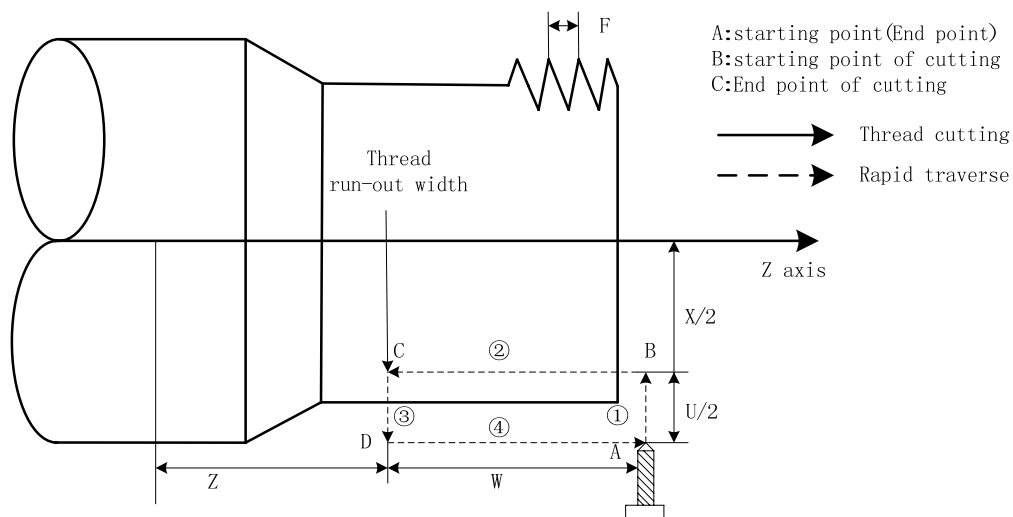
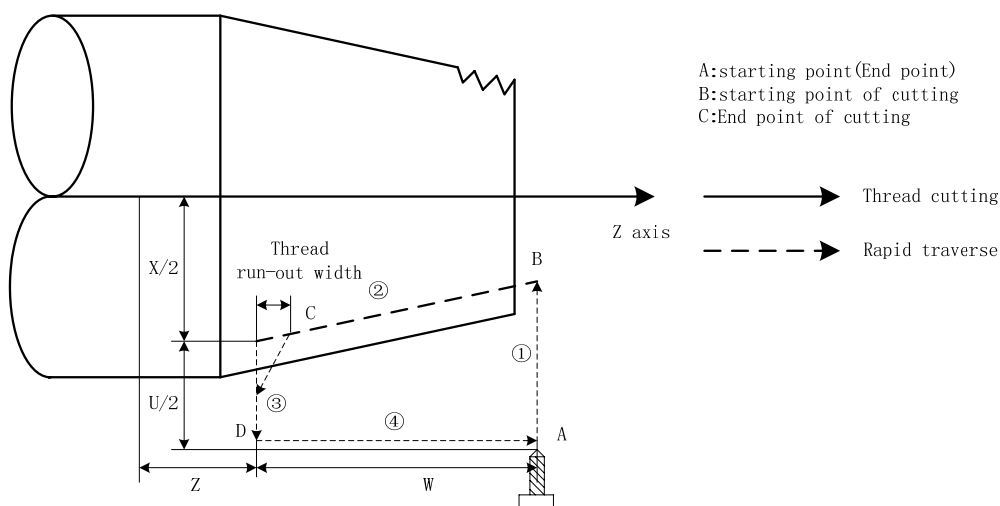

Fig. 3-88
Fig. 3-89
**Command function:** Tool infeeds in radial(X) direction and cuts in axial(Z or X, Z) direction from starting point of cutting to realize straight thread, taper thread cutting cycle with constant thread pitch. Thread run-out in G92: at the fixed distance from end point of thread cutting, Z executes thread interpolation and X retracts with exponential or linear acceleration, and X retracts at rapidly traverse speed after Z reaches to end point of cutting as Fig. 3-88.
**Cycle process:** straight thread as Fig.3-88 and taper thread as Fig.3-89.
- ① X traverses from starting point to cutting starting point;
- ② Thread interpolates (linear interpolation) from the cutting starting point to cutting end point;
- ③ X retracts the tool at the cutting feedrate (opposite direction to the above-mentioned ①), and return to the position which X absolute coordinate and the starting point are the same;
- ④ Z rapidly traverses to return to the starting point and the cycle is completed.